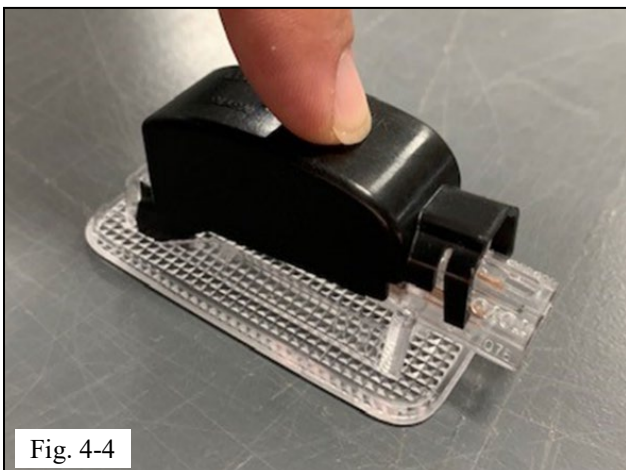

Fig. 4-4
- (c) Press down to fully seat the back shell (Fig 4-4).